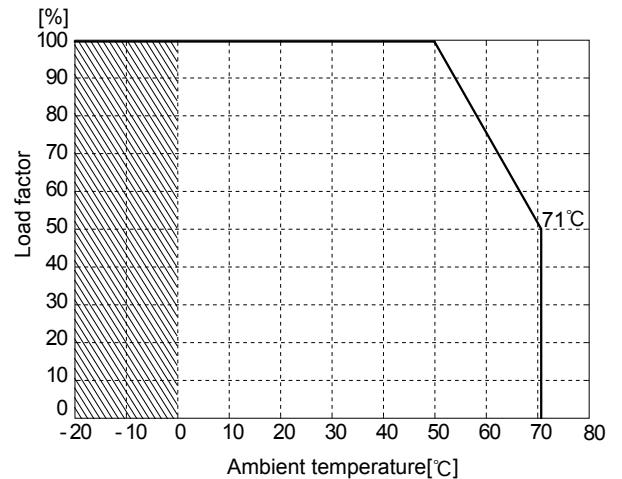

Fig.5.2 Derating curve depending on ambient temperature
- Derating curve depending on ambient temperature is shown in Fig.5.2.